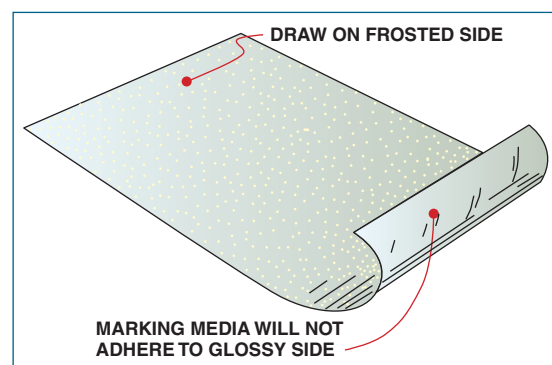

Figure 2-7 Drawing on polyester drafting film.
- Polyester **film** is a transparent and indestructible media. Because of its smooth surface, only a black plastic led pencil or ink can be used to draw on its smooth surface (Figure 2-7).